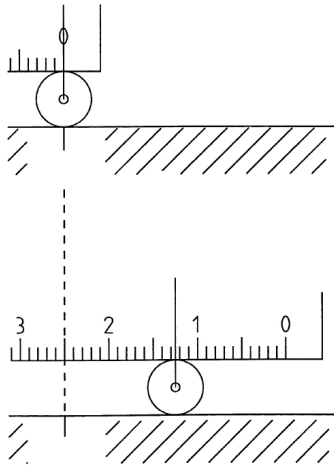

Fig. 10: Rolling movement
Figs. 10 and 11 help with this
2. to familiarise themselves with the way it works, the students should use a ruler (representing the tube with support bush) to rotate the rolling axis 360 ° on one edge. The result is shown in Fig. 10: